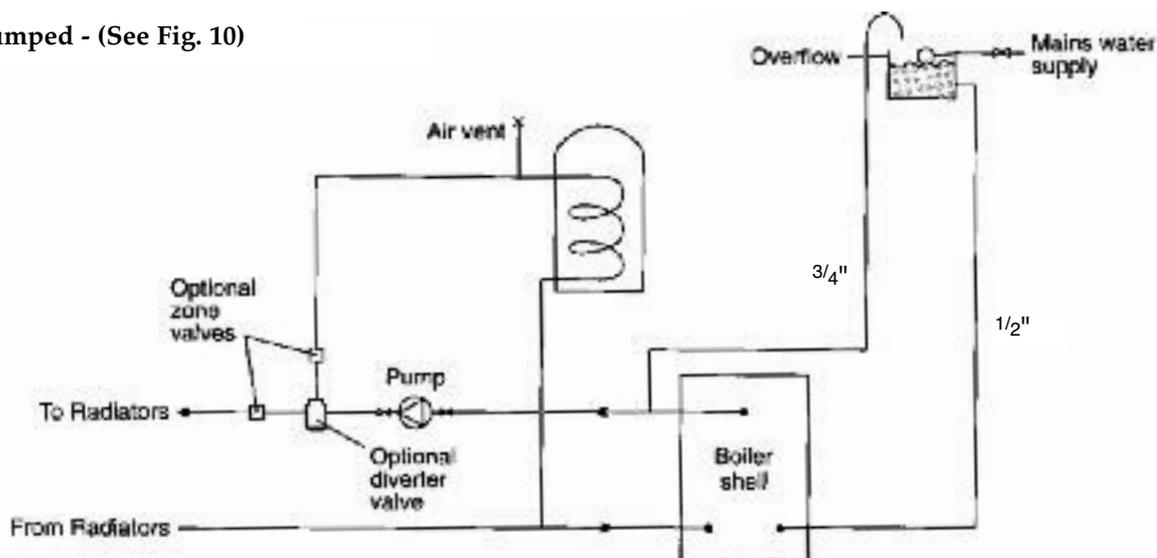

Fig. 10 - 50/70, 50/90 and 90/120 connections shown
3.10.3 Fully pumped - (See Fig. 10)